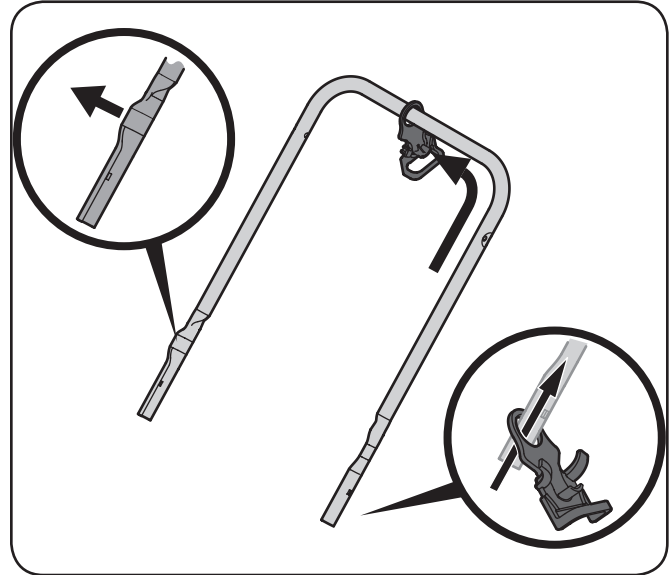

**Figure 3-1**
2. Lift the upper handle and mid handle up and off the snow thrower. See Fig. 3-1.